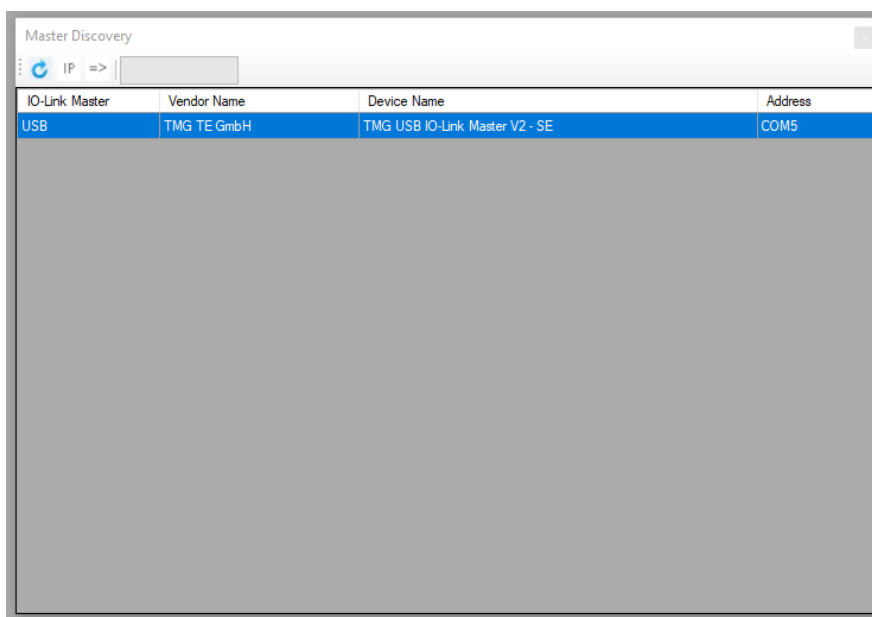

Figure 4. Master Discovery Window
- b. Select the correct IO-Link Master in the “Master Discovery” window using a double-click (see Figure 4).